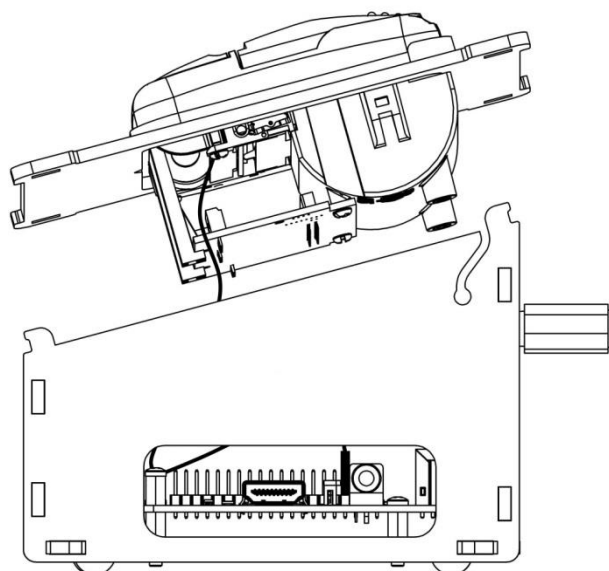

Figure 10
- 18) Offer-up the right-hand side plastics to the assembly. Ensuring that the PSA Cable remains in place, locate the side plastics on the back tabs. Register the side plastics on the back base snap hook first, and bring the side plastics onto the front tabs, finally clipping the side in place on the front base snap hooks as shown in Figure 10.